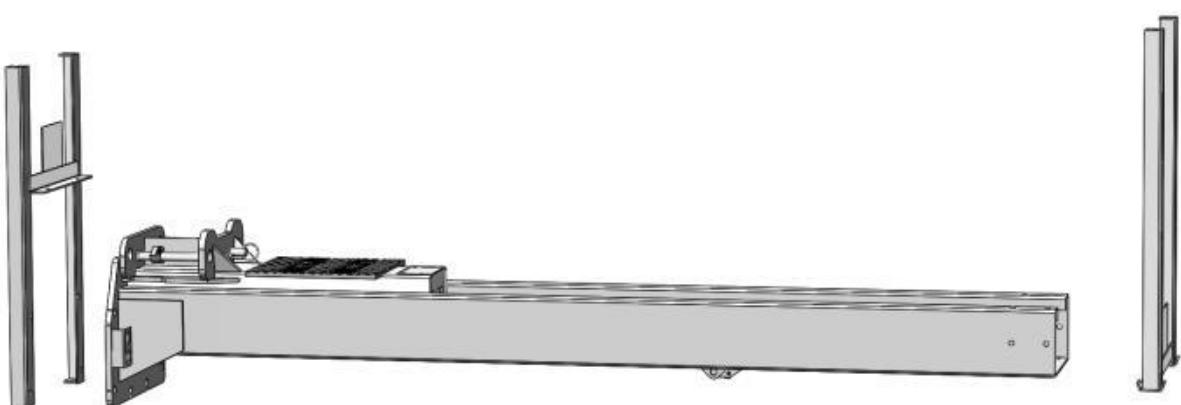

Fig. 14
5. Lift the lower column with a fork lift or hoist, take off the package bracket, then take out the parts inside the column. (**See Fig. 14**)